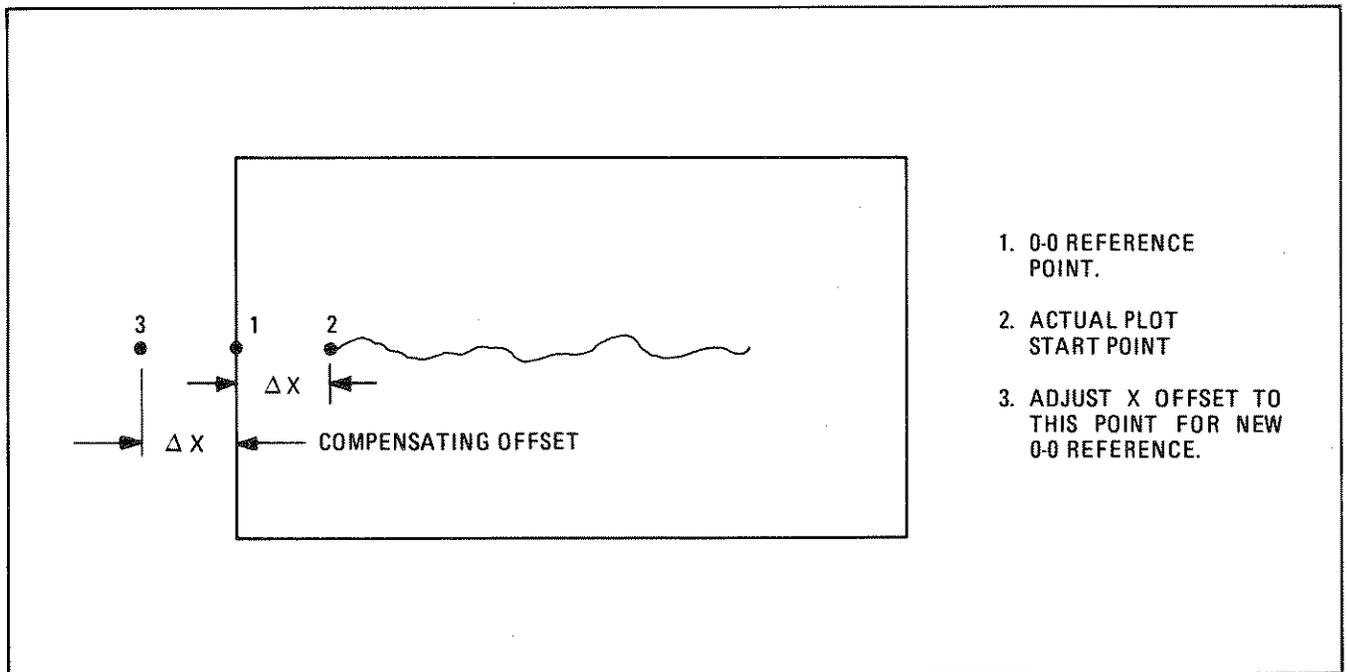

Figure 3-37. Recorder X Axis Offset Adjustment
- e. Adjust the recorder X offset to compensate for the difference between the 0-0 reference point and the actual starting point noted in step d (see Figure 3-37). Repeat steps d and e until the plot starts at the correct 0-0 reference point.